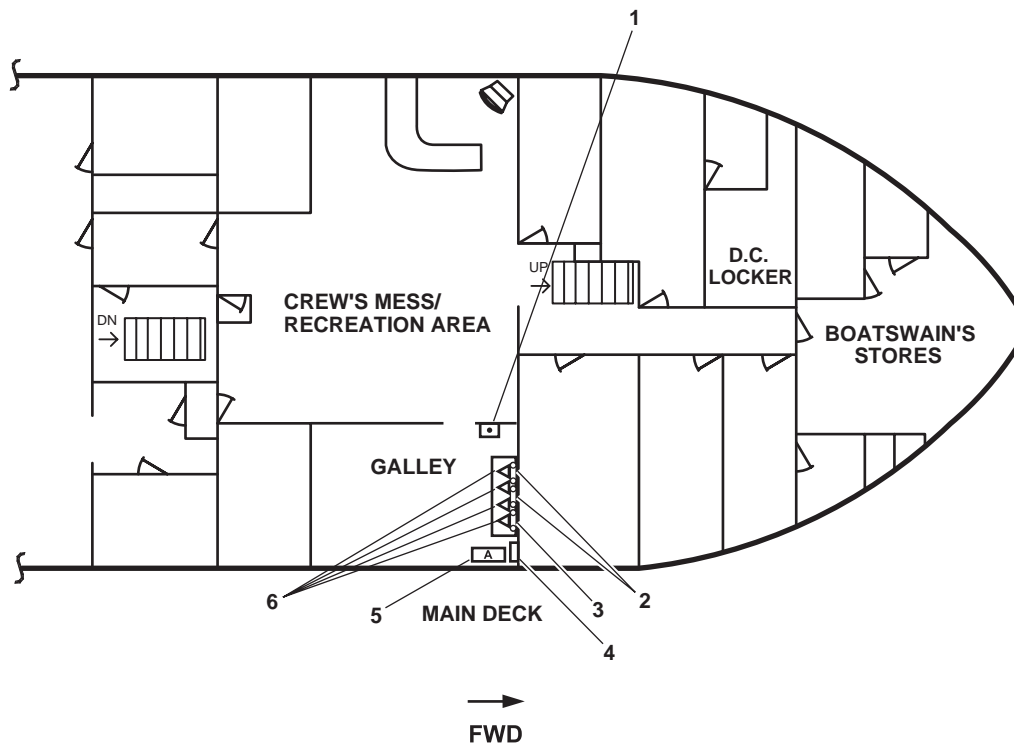

Figure 3. Galley Fire Suppression System
1. Fire Alarm Pull Station (figure 3, item 1). The manual pull box allows the crew to manually activate the galley fire suppression system.
2. Fusible Links (figure 3, item 2). These fusible links are activated at 500 °F (260 °C) and are located over the solid hot top and flat griddle.
3. Fusible Link (figure 3, item 3). This fusible link is activated at 360 °F (182 °C) and is located over the deep fat fryer.
4. Gaylord Washdown System (figure 3, item 4). This system is activated when the galley fire suppression system is activated.
5. Galley Fire Suppression System (figure 3, item 5). This cabinet houses the galley fire extinguishing agent.
6. Distribution Nozzles (figure 3, item 6). These nozzles deliver the galley fire suppression extinguishing agent to the galley heat producing equipment.